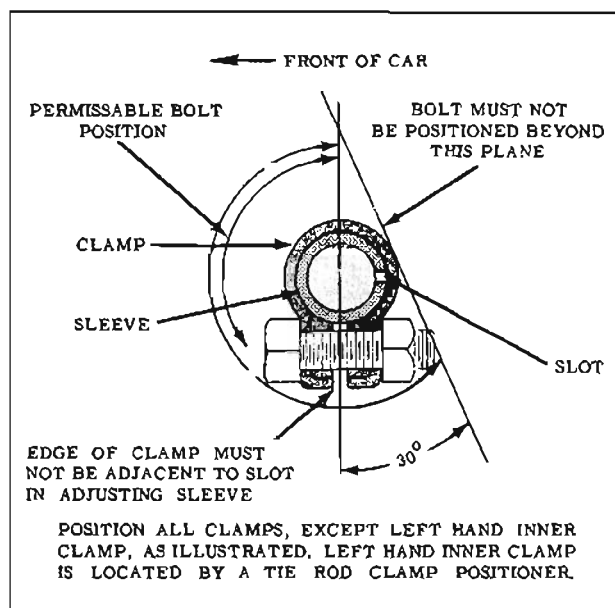

Fig. 9-35 Tie Rod Clamp Positioning
3. When adjustment has been completed according to the recommended specification, and tie rod and ball studs are riding squarely in their seats, position inner clamps as shown in Fig. 9-35.